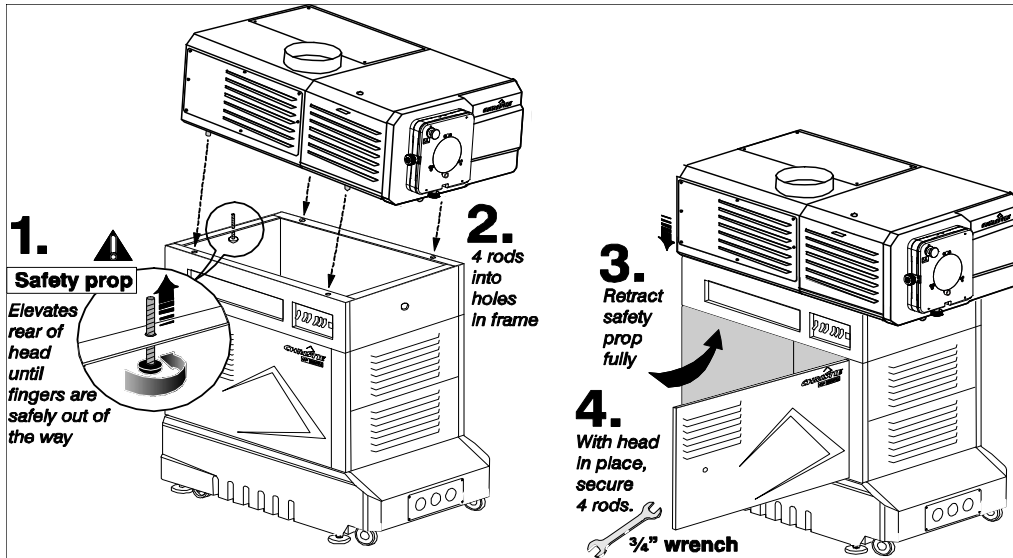

Figure 3-1 Assembling Projection Head with Pedestal
- Inside the pedestal, at the rear of the top frame, turn the knob to extend the safety prop above the pedestal frame. This stop will then elevate the rear of the projection head until fingers are safely out of the way. See **Figure 3-1 Step 1**.